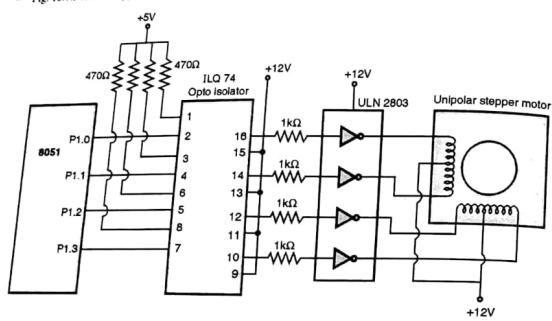

Fig. 10.7.3 : Controlling stepper motor with opto-isolator
- Fig. 10.7.3 shows stepper motor control using optoisolator